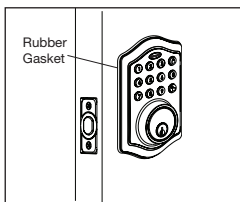

Figure 1a
- Check that the Rubber Gasket is properly seated on the Exterior Assembly (Figure 1a).
- Gently move the switch to “L” for Left Handed Door (Figure 1a).